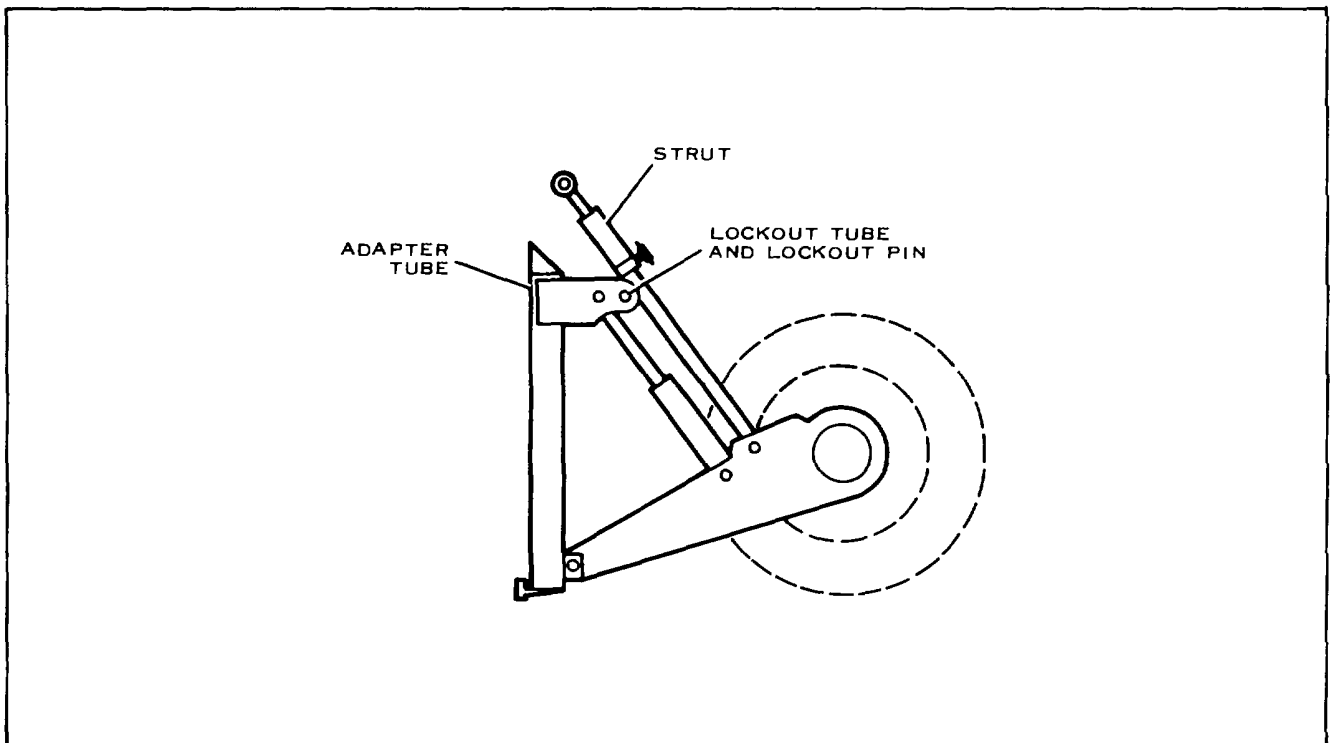

Figure 2-3. Lowered Mobilizer With Lockout Active
- a. Both front and rear mobilizers must be uncoupled and in the down (lowered) position with the lockout pin inserted through the strut lockout tube and strut straight with clamp secure (figure 2-3).